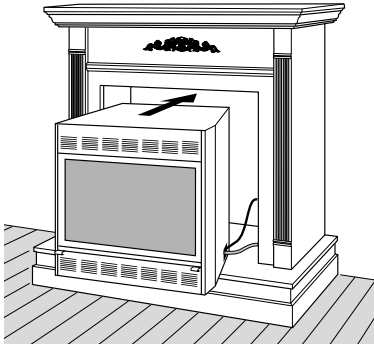

Figure 33 - Inserting Fireplace Into Cabinet Mantel (EFP33PR Shown)
11. Carefully insert fireplace into cabinet mantel (see Figure 33, page 21). Be careful not to scratch or damage hearth base, cabinet mantel, or any laminate trim on hearth base. Remove protective material from top of hearth base and from front of fireplace (if any). **Note:** You can secure fireplace to hearth or floor. Open lower louver. Locate screw holes in bottom of base. Tighten wood screws through these holes and into hearth or floor.